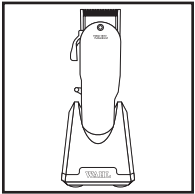
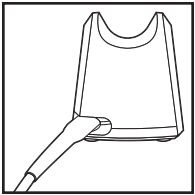

FIGURE 2
FIGURE 3
- **For units with a recharge stand,** place clipper in recharge stand so nameplate faces forward. (Figure 2) Attach power cord plug into recharge stand first, then to outlet. (Figure 3) (Not all units have a recharge stand.)